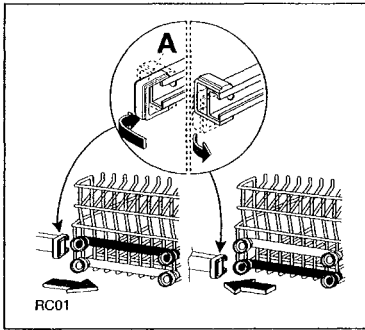

Fig.14
Move the front runner stops (A) of the upper basket outward and slide the basket out (Fig. 14).